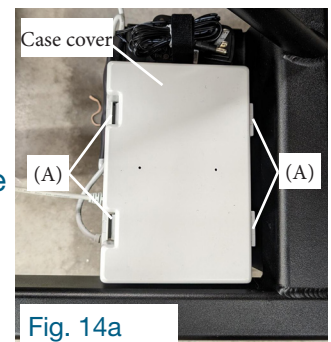

Fig. 14a
1. Remove the case cover by pressing on the (4) case clips (A) (fig. 14a).
6. Insert and clip the case cover onto the case. Make sure the cover is securely in place before using the unit (fig. 14a).